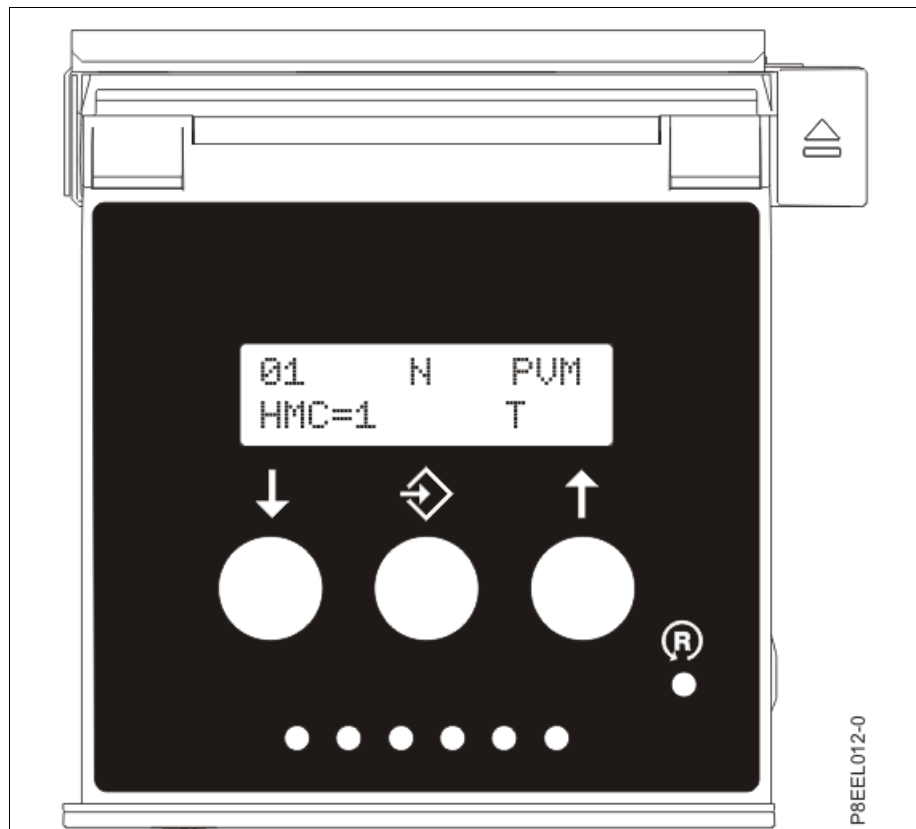

Figure 3-2 Operator panel display
5. Ensure that the Operator panel displays 01 N PVM (see Figure 3-2).
7. Log on to the console (Figure 3-2 on page 88). The default user ID is admin, and the password is PASSWORD.